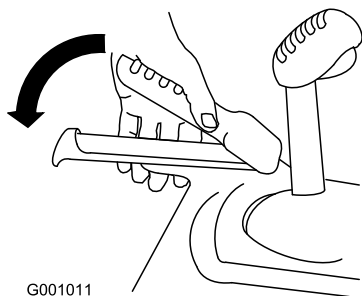

Figure 15
3. Squeeze the left (traction) lever to the handgrip (Figure 15).
6. Squeeze the left (traction) lever to the handgrip (Figure 15).